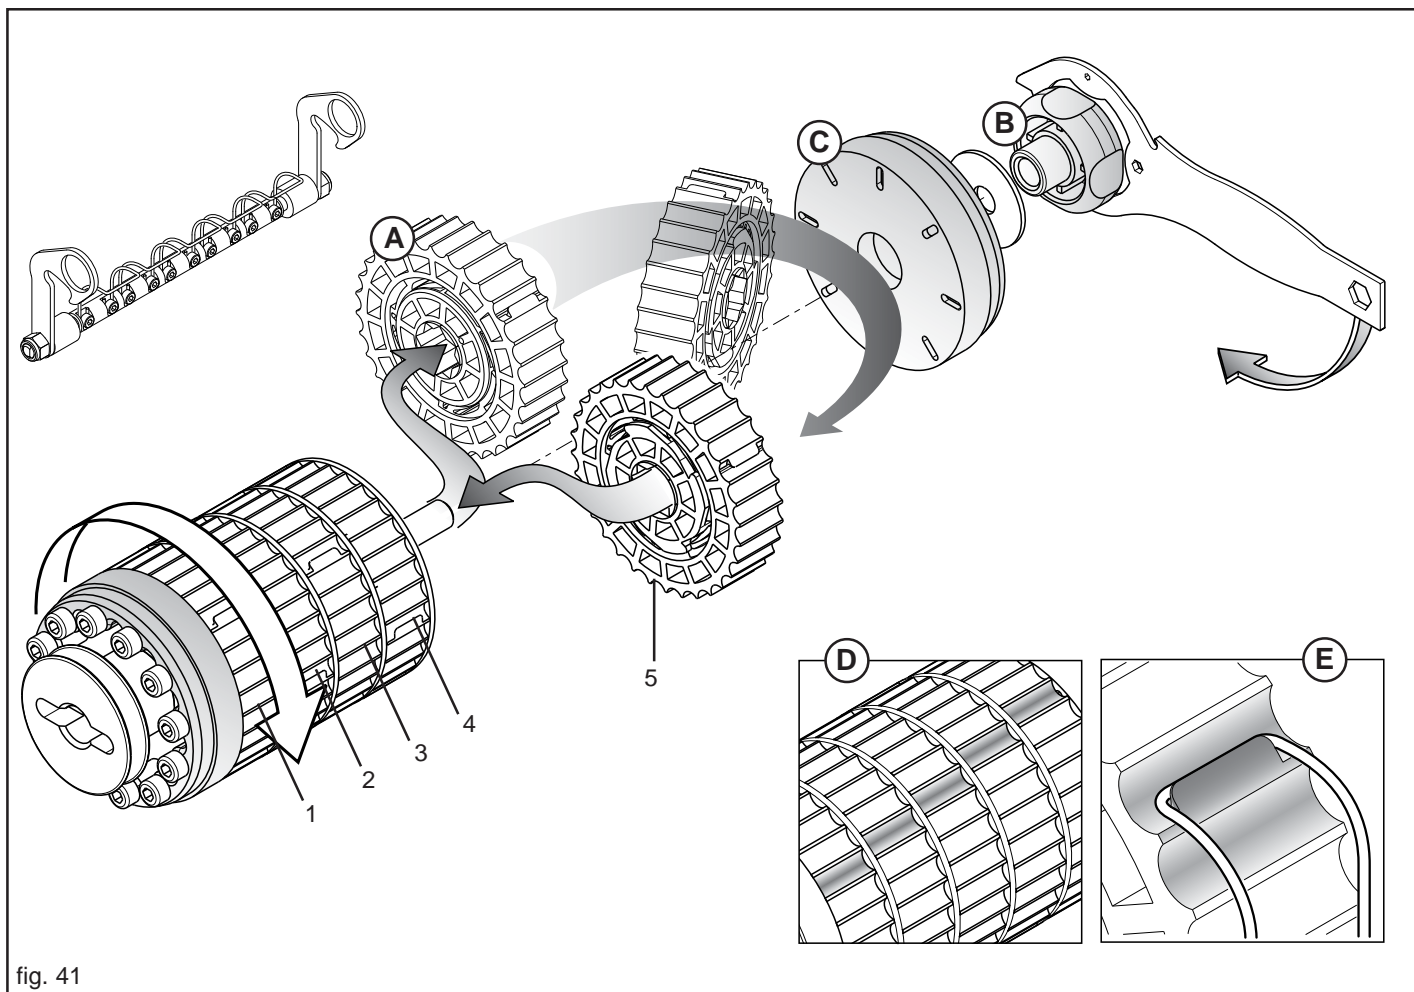

fig. 41
Considering that every section (A, Fig. 41) of the dosing roller distributes 20% of the product contained in roller itself, the number of operating sections can be increased and the gearbox rotation speed reduced to obtain more homogeneous distribution.
First, take the dosing roller off the machine. Then, unscrew the knob (B, Fig. 41) using the supplied wrench and remove the lock nut (C). Extract the section(s) to be activated and put them back in **their positions** (1-2-3-4-5, Fig. 41) turning them by 180°.
When re-assembling the sections, make sure that during operation the dosing grooves of the active sections are staggered from one another (D, Fig. 41). This will give continuity to distribution.
Block the cleaning element in the operating position and make sure that the springs hook the previously excluded sections (E, Fig. 41) preventing their rotation and consequently distribution.